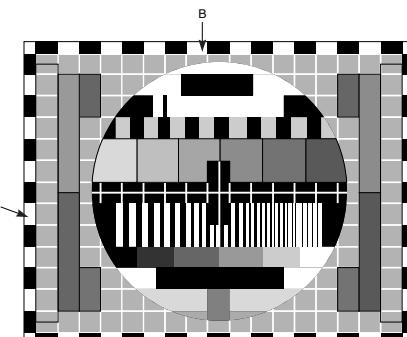

Fig1) H/V Position Adjustment Screen
2. Remove the two retaing screws on the lamp cover with a screwdriver of "+" type and then lift off the lamp cover.(refer to fig.1)
< Fig. 1>
- 4) Change the data with volume key on the remote control for adjustment so that the left/right of screen (A-fig1) to be symmetry and then adjust the outermost line of 5 channel(fixed size by circuit/optics) to be placed on the outermost of screen.
- 2) Change the data to symmetrized upper and down of screen(B-fig1) and then press the ADJ key on remote control to get out of adjustment mode.